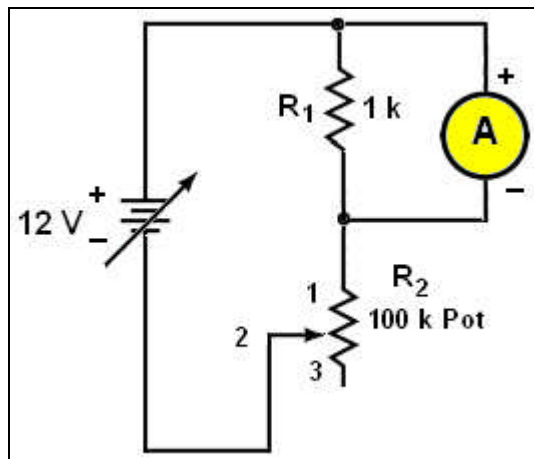

Fig. 1-4 Resistor Circuit for Steps 15
15. If the meter does not have current scales, construct the circuit shown in Fig. 1-4. Here, the 1000 Ohm 1% resistor and the voltmeter form a makeshift ammeter. Remember, the 0-1 volt scale is read as a 0-1 mA scale.